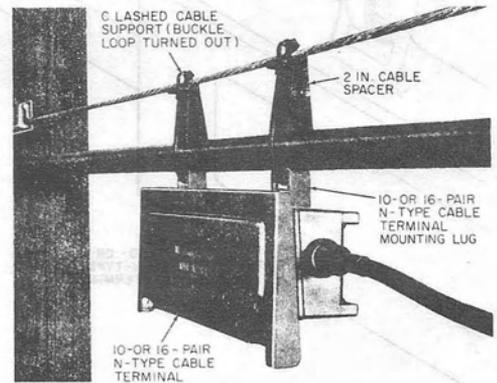

Fig. 14—10- or 16-Pair N-Type Cable Terminal Installed
3.05 Determine the location for the terminal as outlined in 3.01 through 3.04. Install the terminal as shown in Fig. 14.
3.06 Determine the location for the terminal as outlined in 3.01 through 3.04. If the distance between the strand and cable at this location is less than 2-1/2 inches insert an appropriate size cable spacer and install the terminal as shown in Fig. 14.